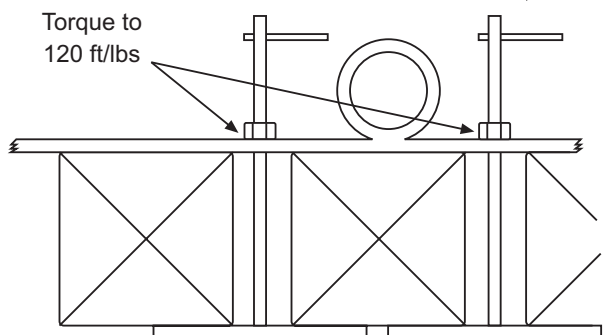

fig. 4
6. Insert T-bolts upwards into the base plate holes placing the bottom T of the T-bolt perpendicular against the bottom of the ties. Torque the nut on the T-bolts to 120 ft/lbs. Repeat procedure for the eight T-bolts per base plate. (fig. 4)